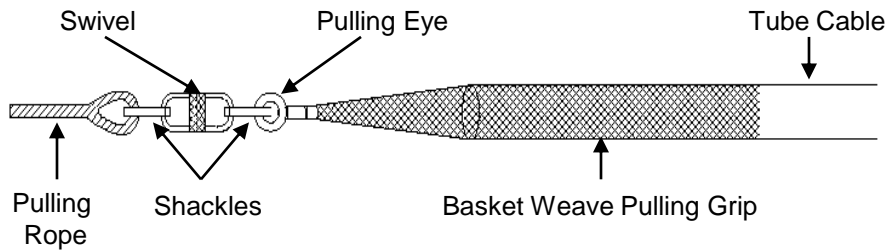

Figure 18
16.2.1 The pulling end of the tube cable must be properly prepared to endure the pulling tensions encountered during installation. The typical method for attaching a pulling rope to a tube cable end is with standard basket weave style pulling grip. **See Fig. 18.**